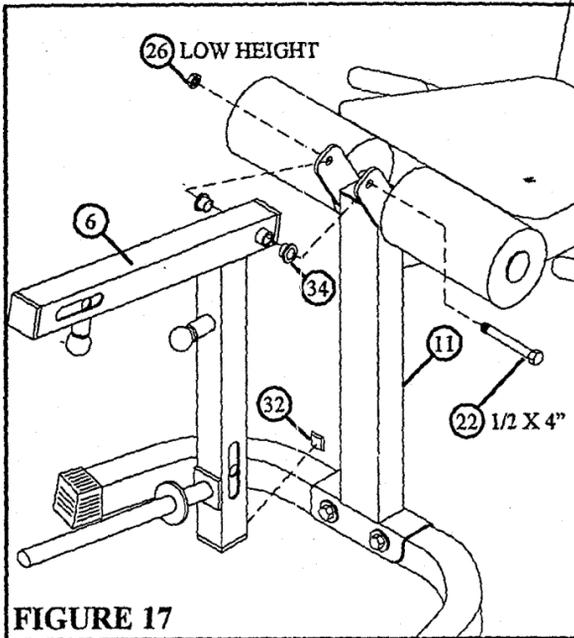

**FIGURE 16**
**STEP 18:** Insert 5" & 13-1/2" ROLLER PAD ADJUSTERS (4 & 5) in the ends of the LEG CURL/EXTENSION (6). Pull back on SPRING PINS until ROLLER PAD ADJUSTERS (4 & 5) lock in place. See FIGURE 16.
**STEP 19:** Insert three 2" SQUARE END CAPS (28) into the ends of the LEG CURL/EXTENSION (6). See FIGURE 16.